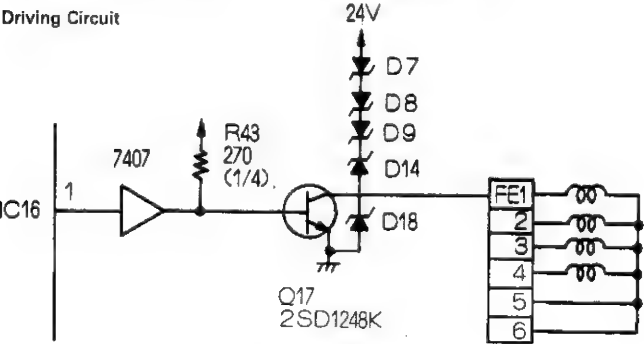
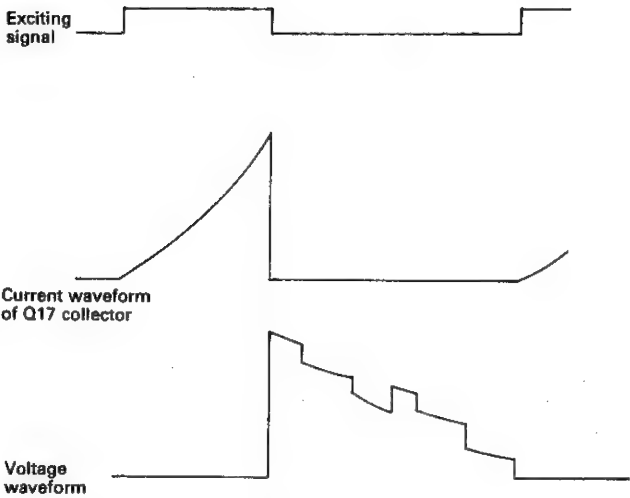

Figure 6-4
Figure 6-5
Figure 6-4 shows the driving circuit, for which a brief explanation is given below. The excitation signal goes out of pin ① of IC16 and is applied to 7407. The output from 7407 turns on Q17 (2SD1248K) which applies the current to the motor to start its rotation. Figure 6-5 shows the waveform of the current at this moment. D18 protects Q17 against reverse current. D7 to D9 and D14 are provided to absorb the counter electromotive voltage of the motor acting on the collector of Q17. They are so designed as to clip the voltage at approx. 60V.